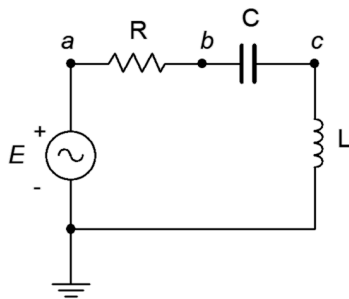

Figure 2.20
35. For the circuit of Figure 2.20, determine the circulating current and the voltages across each component. The source is a 10 volt peak sine at 20 kHz, $R = 200\ \Omega$, $C = 100\ \text{nF}$ and $L = 1\ \text{mH}$.
36. For the circuit of Figure 2.20, find v_b and v_{ac} .
64. Assume that you are troubleshooting a circuit like the one shown in Figure 2.20. E is a 2 volt peak sine at 2 kHz, $R = 390\ \Omega$, $C = 100\ \text{nF}$ and $L = 25\ \text{mH}$. The circulating current measures approximately 4 mA with a lagging phase angle of just under -40 degrees. What is the likely problem?
65. Given the circuit shown in Figure 2.20, find the values for C and L if the source is a 6 volt sine wave at 1 kHz, $R = 2\ \text{k}\Omega$, $v_R = 4\ \text{V}$ and $v_L = 5\ \text{V}$.